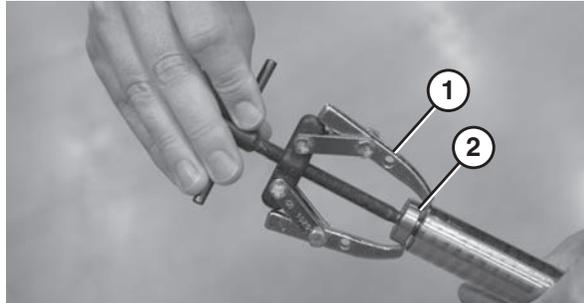

Figure 55
2. Using a bearing removal tool (**Figure 55, item 1**) remove the bearing (**Figure 55, item 2**).